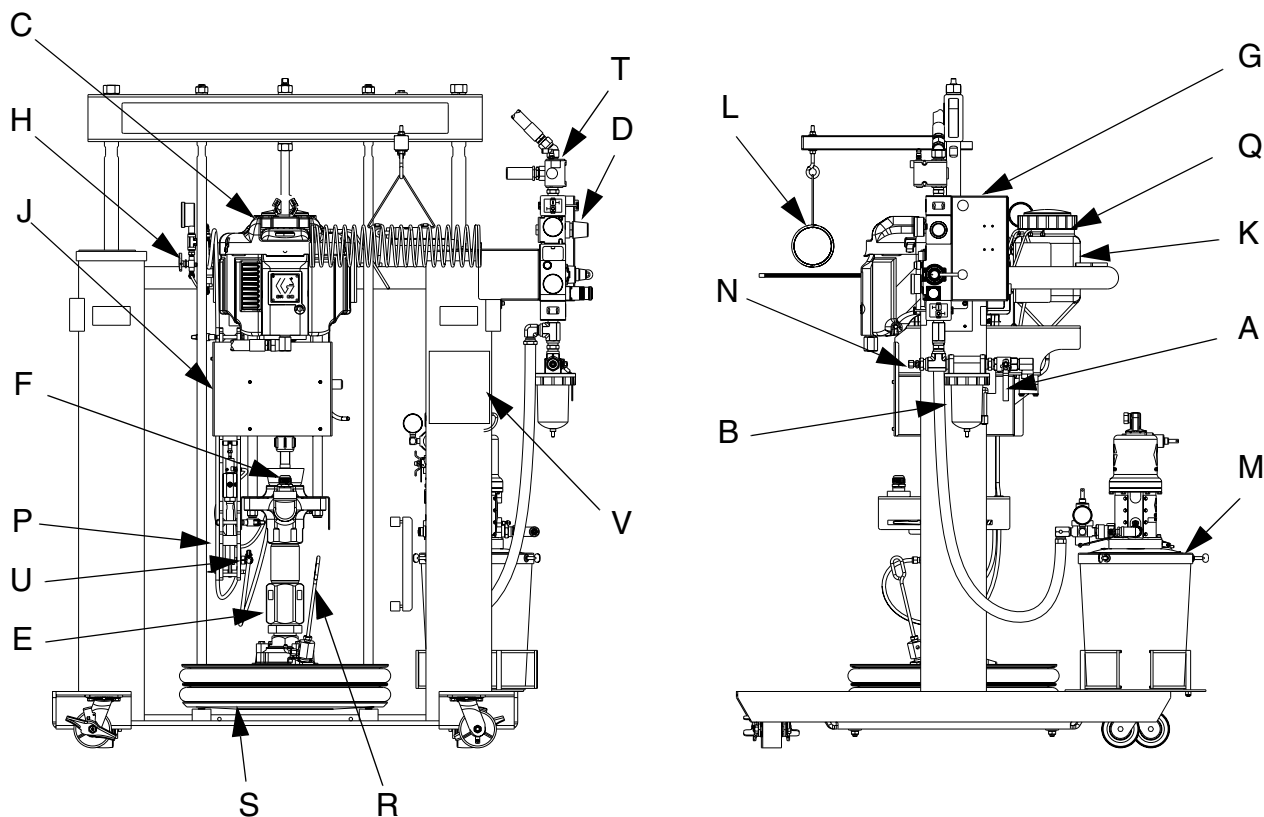

FIG. 1
1. Connect the resin hose from the hose bundle to the resin outlet fitting (F), FIG. 1, using the hose hanger support.
3. Connect the air motor signal tube from the hose bundle to the air motor supply valve (T), FIG. 1.
4. Connect the air supply hose from the hose bundle to the dispense valve air supply (N), FIG. 1.
5. Connect the solvent hose from the hose bundle to the solvent outlet fitting (AC), FIG. 1.